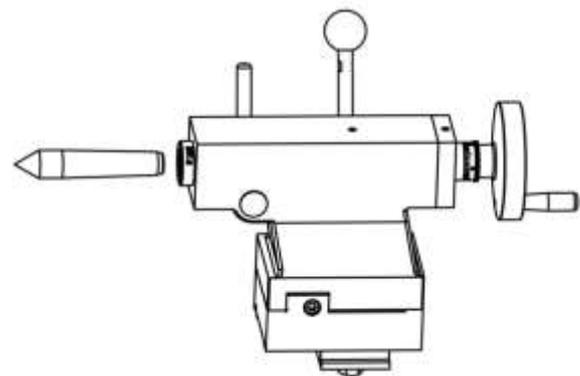

Figure 11 .Inserting dead center into tailstock quill.
4. Slide the dead center into the tailstock quill as Shown in **Figure 11**.